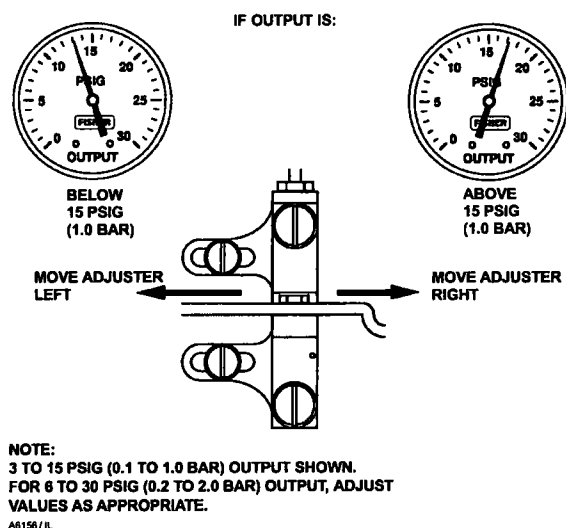

Figure 13. Transmitter Span Adjustment
8. If the output pressure is not 15 psig, adjust the span by loosening one of the two adjusting screws (key 43) and move the calibration adjuster (key 41) a small distance as indicated in figure 13.